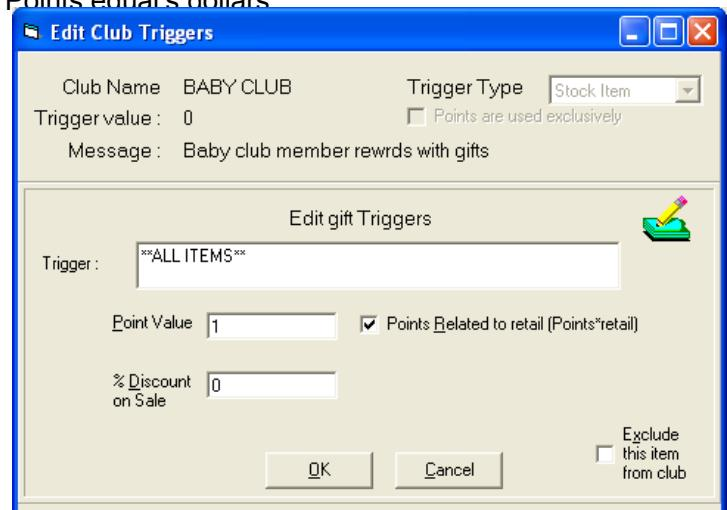

Figure 405
3. When setting up club triggers tick the 'Points equal's dollars' option so you have a record of customer's spending (see Figure 405).